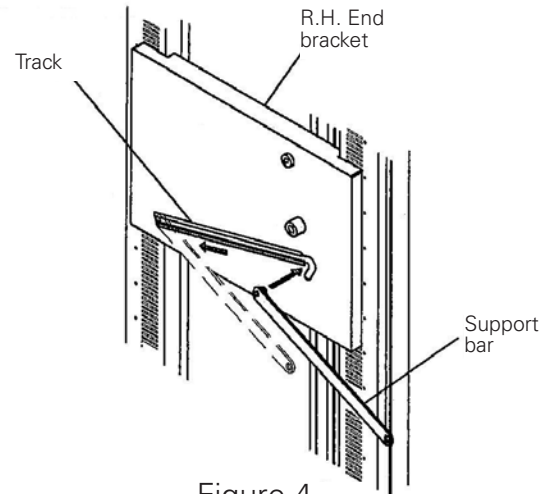

Figure 4
4. Assemble one support bar into the plastic lined track on the R. H. side panel by inserting the shoulder rivet into the track at the location shown in Figure 4. Now slide the rivet toward the bottom of the track.